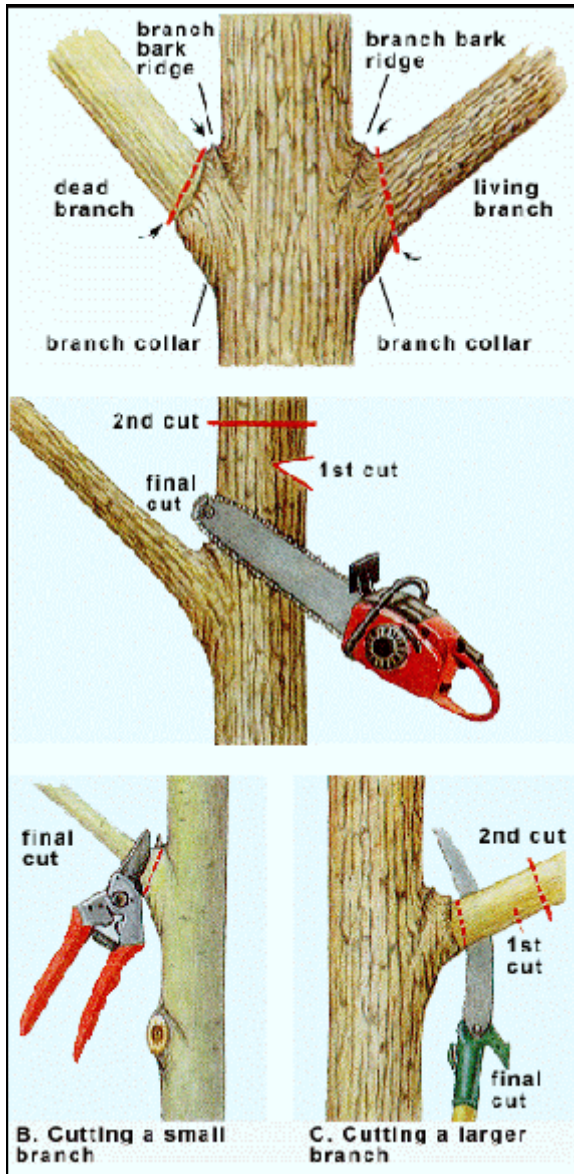

Figure 6. Pruning cuts
1. *Pruning living branches* (Fig. 6)
2. Pruning dead branches (Fig. 6)
Proper tools are essential for satisfactory pruning (Fig.6). The choice of which tool to use depends largely on the size of branches to be pruned and the amount of pruning to be done. If possible, test a tool before you buy it to ensure it suits your specific needs. As with most things, higher quality often equates to higher cost.